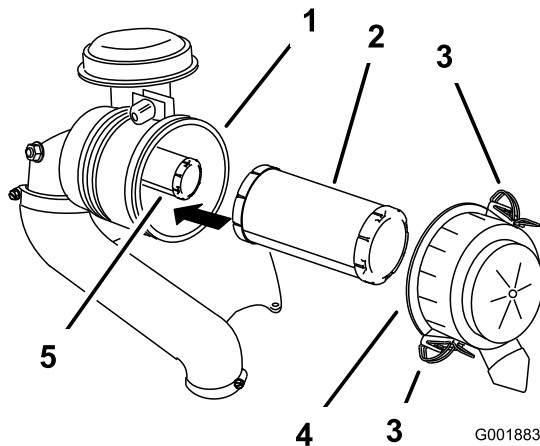

Figure 26
3. Release the latches on the air cleaner and pull the air cleaner cover off the air cleaner body (Figure 26).
5. Gently slide the primary filter out of the air cleaner body (Figure 26).
2. If the safety filter is being replaced, carefully slide it into the filter body (Figure 26).
3. Carefully slide the primary filter over the safety filter (Figure 26).
4. Install the air cleaner cover with the side indicated as up facing upward and secure the latches (Figure 26).